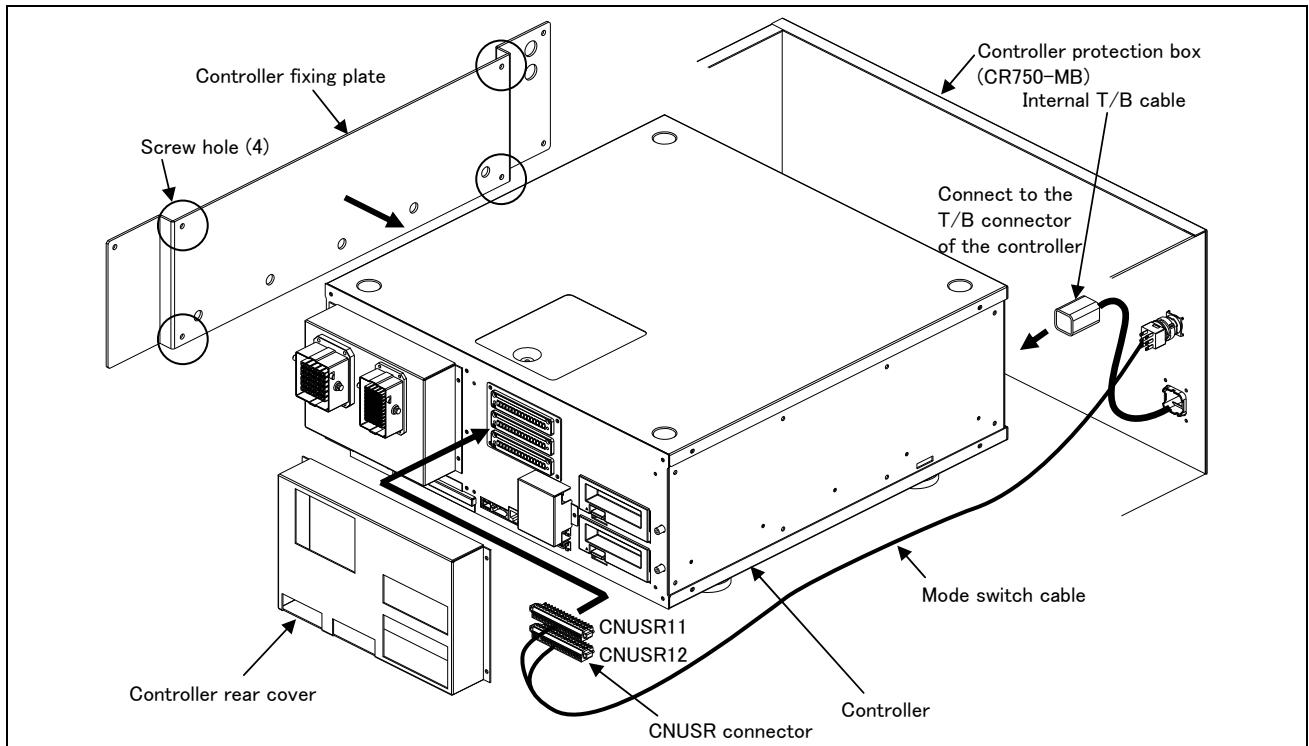

Fig. 3-5 : Mode switch cable, Internal T/B cable wiring
- * When the controller is installed, the rear cover is removed, so please keep it. (Refer to Fig. 3-5.)